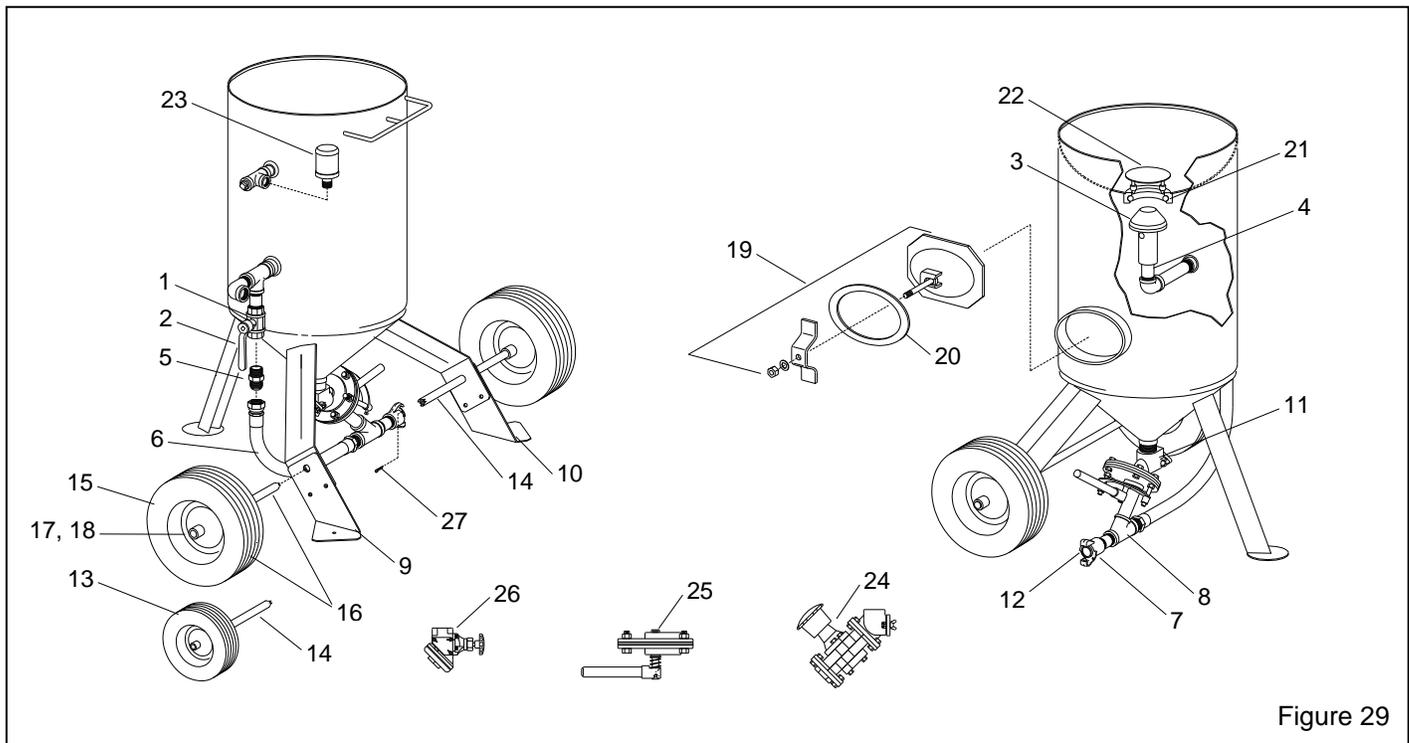

Figure 29
8.5 Blast Machine and Accessories - Figure 29